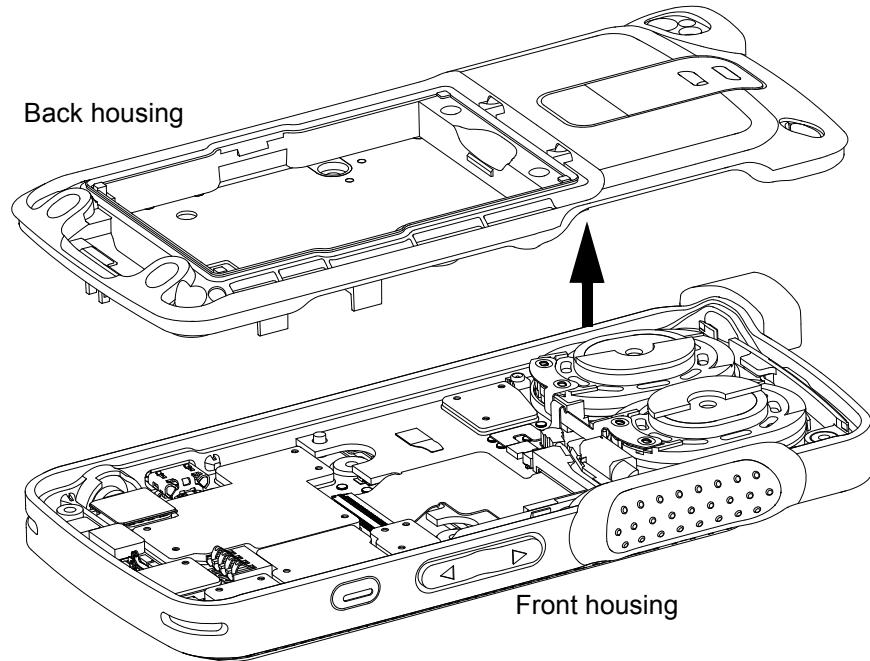

Figure 5-8. Back housing removal
6. Lift back housing from the front housing as shown in Figure 5-8.